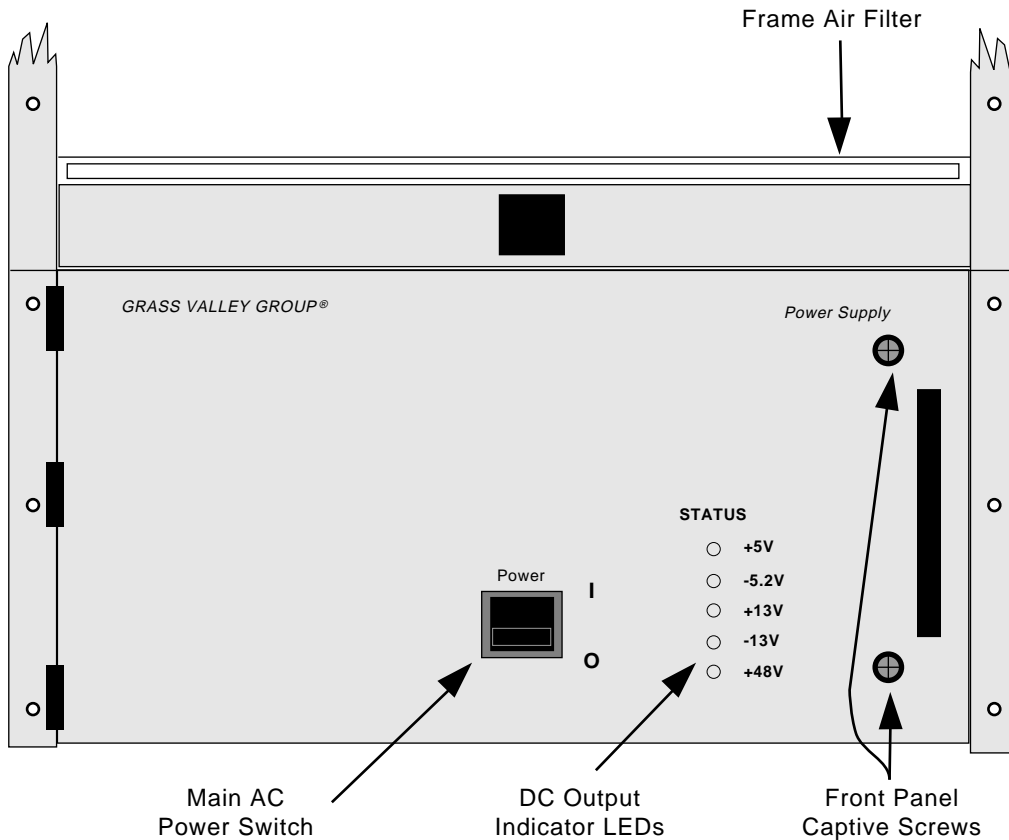

Figure 4-3. Frame Power Supply (Front) AC Switch Location
1. Turn the main power switch on the front of the supply to the OFF position. The five green DC output LEDs on the front panel will extinguish. See Figure 4-3.
6. Release the chassis from the rack by removing the screws at the front of the chassis at the left and right hand lip. See Figure 4-3.